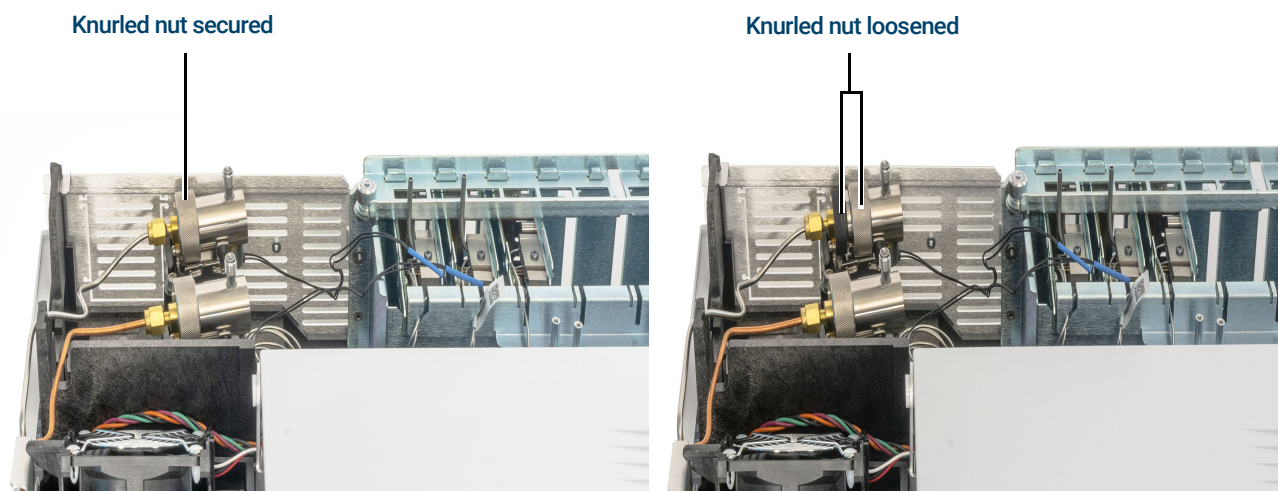

Figure 7. Loosen the knurled nut
- 4 Completely loosen the knurled nut that secures the split vent trap in place as shown in **Figure 7**.